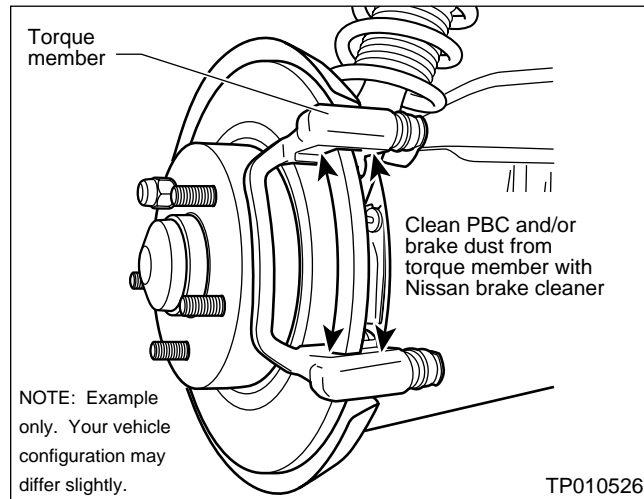

Figure 3
- Use Nissan Brake Cleaner (P/N 999MP-A3042) to remove the old PBC (Poly Butyl Cuprysil) grease and/or brake dust from the “torque member” (see Figure 3).